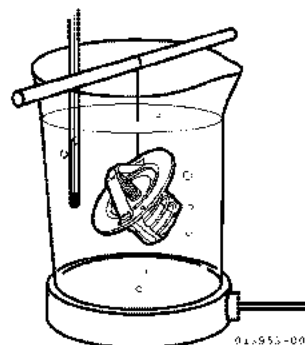

Figure 7-7
2. Immerse the thermostat into a container of water. Suspend it so that it does not come into contact with the walls or bottom of the container (Figure 7-7).